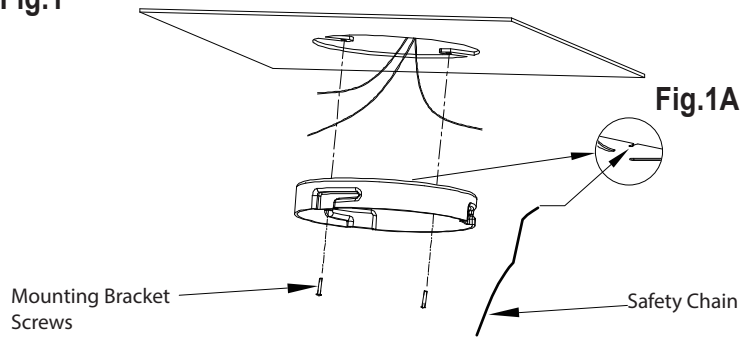

Fig.2
5. Connect the electrical wires as shown in Fig.2 ensure that all colored like wires are connected and secure by wire nut (Fig.2).